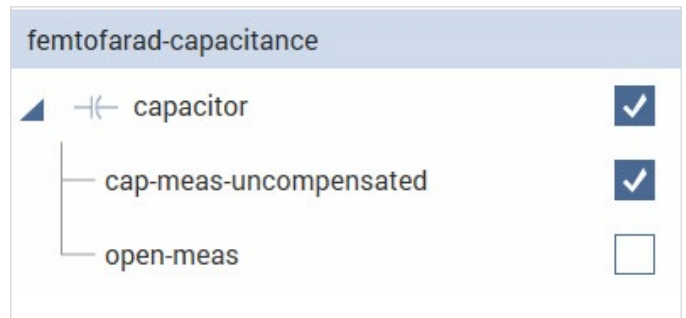

Figure 9. Uncheck the *open-meas* test to repeat measurements from the project level Analyze view.
- Repeating the measurements.** The measurements can be repeated from the project level by selecting Run. The compensated readings will automatically be calculated. However, the *open-meas* test must be unchecked as shown in **Figure 9**. Acquired open measurements should be repeated periodically if the data appears to move unexpectedly. This could indicate temperature variations or cable movements.